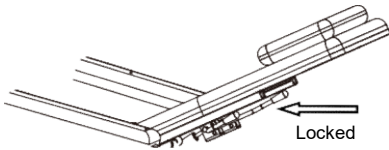

Figure 8
- When adjusted to the desired angle, release the control lever to be parallel to the chair surface and the chair surface angle will be locked. (Figure 8)